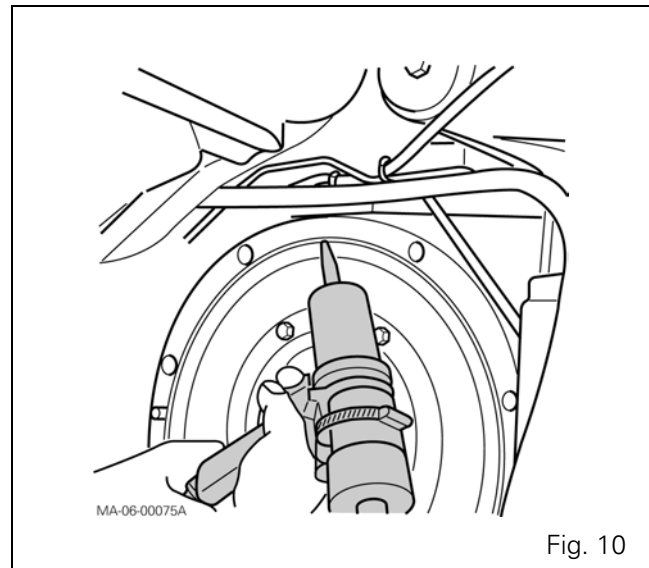
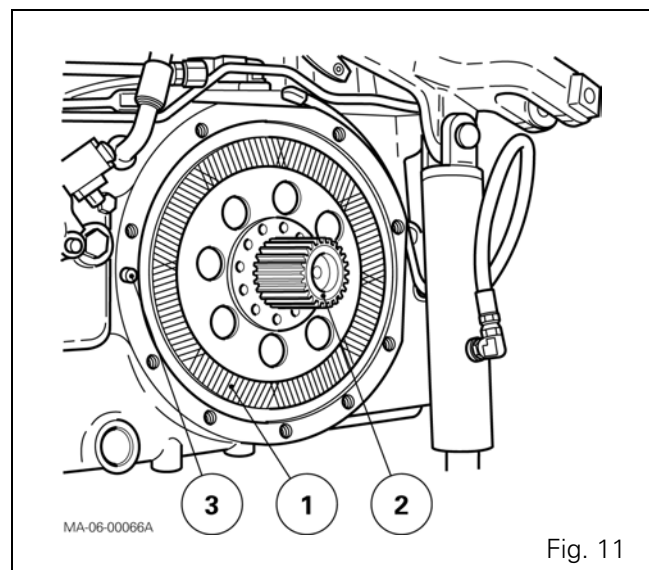

Fig. 10
Fig. 11
15. Clean the mating faces on the rear axle housing and on the trumpet housing with a non-greasy solvent. Apply a bead of oil resistant silicone (Sili-comet type) to the inner edge of the centre housing (Fig. 10). Refit the sun gear (2), the disc (1), and locating pin (3) (Fig. 11).